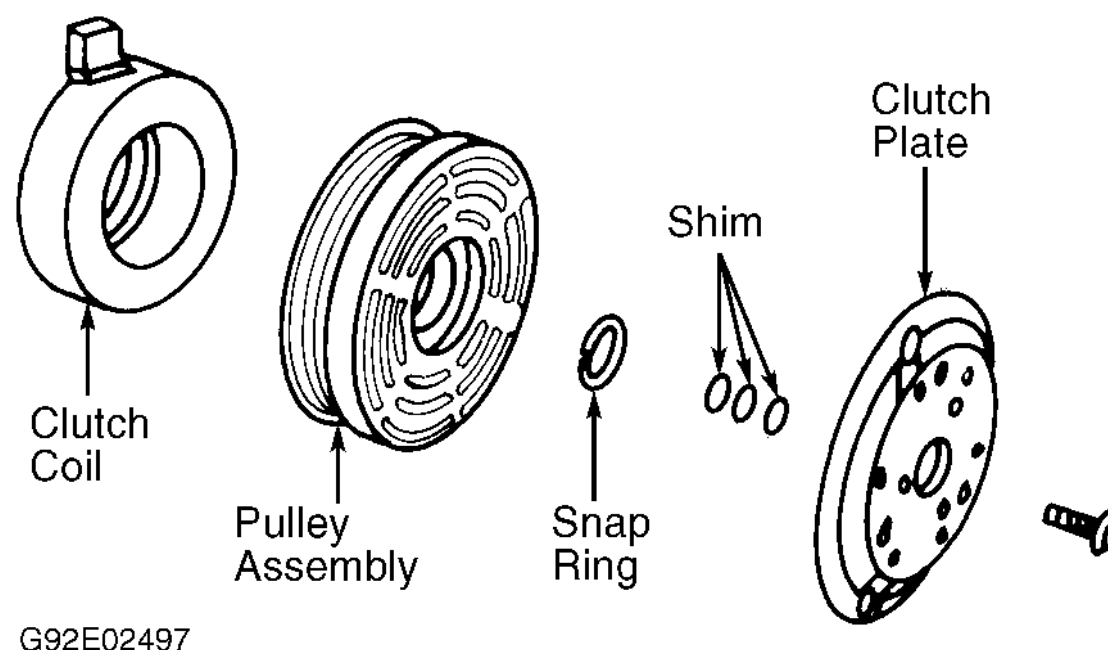

Fig. 6: Exploded View of Compressor Clutch (Ford FX-15)
1. Using Clutch Holder (00 41 0812 05), remove clutch plate retaining bolt and discard. Using an 8 mm bolt threaded into clutch plate, remove clutch plate and shim(s). See Fig. 6.
1. Using Clutch Holder (000 41 0812 05), remove clutch plate retaining bolt and discard. Using an 8 mm bolt threaded into clutch plate, remove clutch plate and shim(s). See Fig. 6.